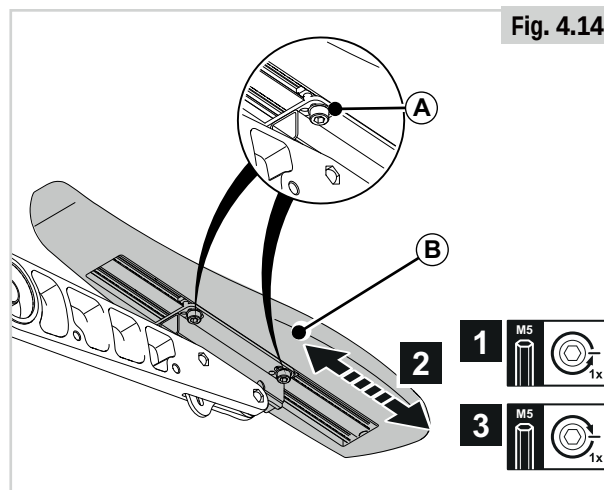

Fig. 4.14
Armrest pad depth (Fig.4.14)
In order to reach the rear screw in lower armrest heights, loosen screws (A) of Fig 4.14 and adjust the angle of the pad first.